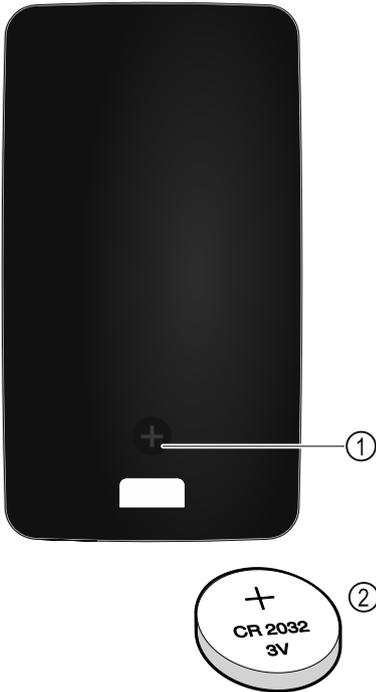

Fig. 260
The remote control is powered by a 3V CR 2032 battery Fig. 260 (2) available from specialist retailers.
- ▶ Undo screw Fig. 260 (1) on the back of the remote control.